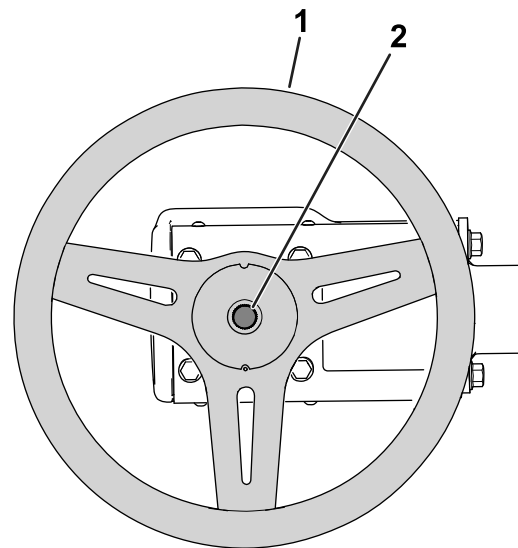

Figure 7
- B. Install the steering wheel in the position shown in Figure 7.